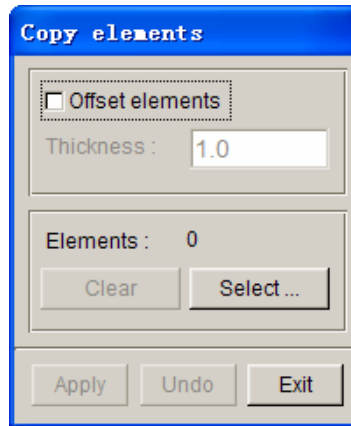

Figure 8.2.56 Copy Elements dialog box
**COPY ELEM...:** This function allows the user to COPY or OFFSET new element(s) form existing elements. If the user defines only one die face, then he/she may COPY or OFFSET new parts by using this function, and define the part as the relevant tool. The program displays the copy element dialog box as shown in Figure 8.2.56.
This function is used to control tools' action in the current stage. It includes define travel speed, closing force and travel curve, etc. of the tools. See Figure 8.2.56 for a sample tool control.